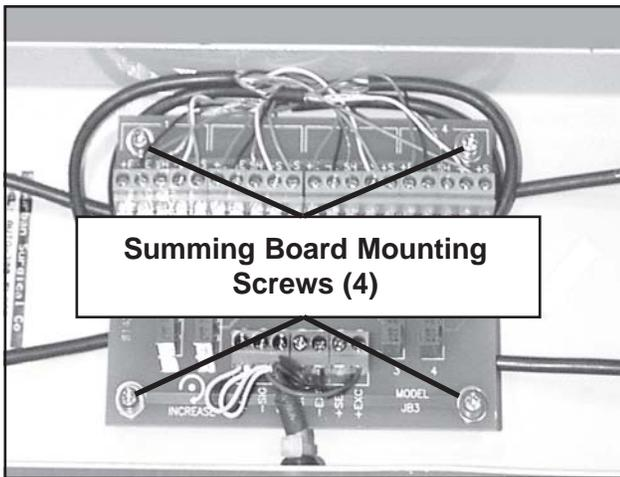

Figure 48. Summing Board - Mounting Screws
4. With a Phillips screwdriver, remove the four summing board mounting screws (Figure 48).
5. Mount the summing board to the frame and secure with the four screws (Figure 48). **Note:** Tuck the wires from the load cell neatly under the summing board making sure that none are pinched or stretched.
2. Check that the five display cable wire connections are correctly terminated on the summing board (Figure 48). All five wires should be securely fastened in place. Give each one a slight tug to be sure it is not loose.